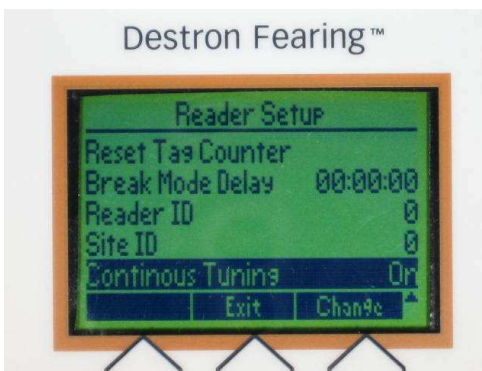

FIG. 77: Continuous Tuning Screen - ON
1. Press the UP/DOWN Arrow Keys on the Reader Setup Screen and highlight the "Continuous Tuning" line. See Fig. 77.
2. Press the CHANGE Key to change the setting from ON or OFF. See Figs. 77 - 78.